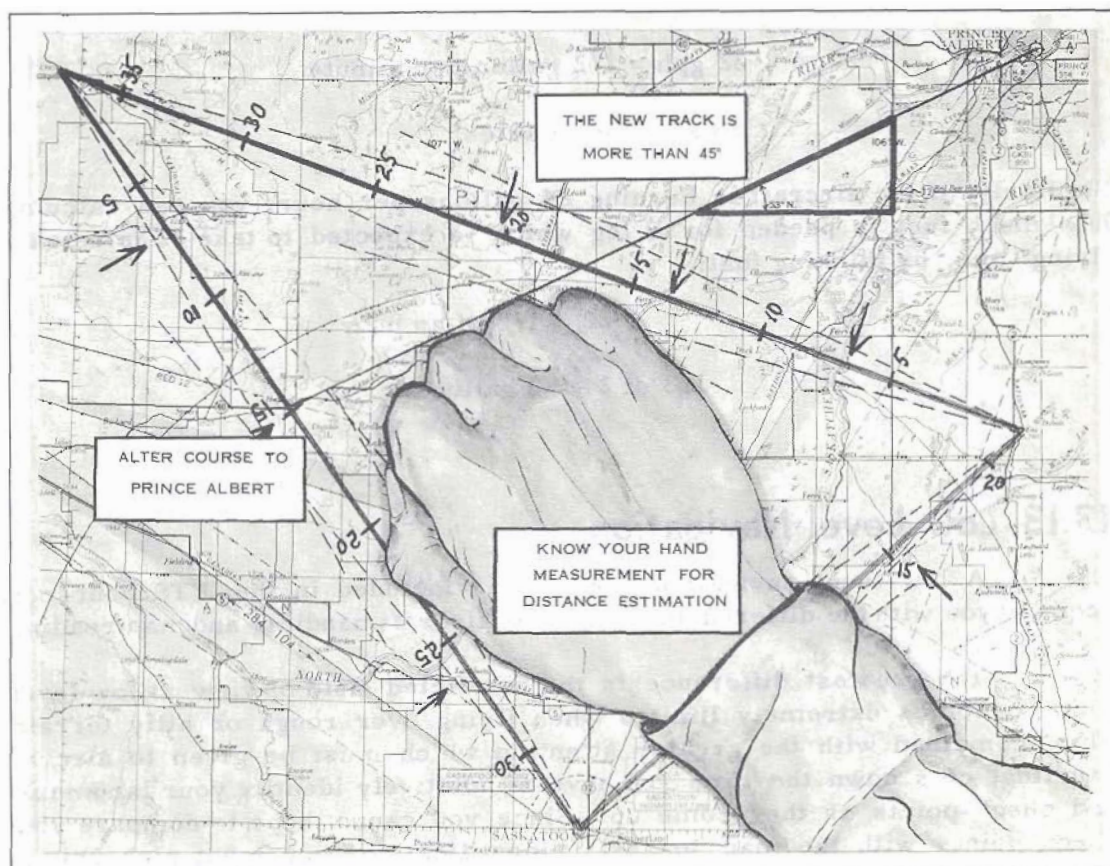

Figure 7: Track and Distance Estimation
(9) ESTIMATING TIME - To estimate time you must know the ground speed and be able to think of it in miles per minute. For example, 120K can be thought of as 2 miles a minute, 180K as being 3 miles a minute, and so on. Any ground speed can be converted into one of these simple numbers, with a mental adjustment being made according to whether the actual speed is greater or smaller than the nearest easy division. For instance, if you want to know how long it is going to take to cover 90 nm at 115K, you would immediately think of it taking 45 minutes at 120K, and then you would add two minutes for the slower speed.
(10) ESTIMATING ANGLES - If you have to alter track in the middle of a leg, you can make a mark on your map to show the new track by creasing the paper from your present position to the intended destination. The following tips are helpful in estimating the angle of the new track. The first method is to select a point on the map where the track crosses a meridian or a parallel as shown in Figure 7 opposite. The quadrant in which the track lies is known,
(11) **ESTIMATING DISTANCE** - Your equipment for measuring distance is usually limited, but there are certain guides which can be used to help you. One minute of latitude is equal to one nautical mile, and on every map there is a line at every tenth minute. Notice that this is **LATITUDE** and not longitude; longitude is measured in degrees. Another method is to discover how many miles your hand spans, and by remembering this figure, you can always estimate distance with reasonable accuracy. (See Figure 7.) The average hand spans 60 nm on an 8 mile to 1 inch map, but of course, this varies with the individual.